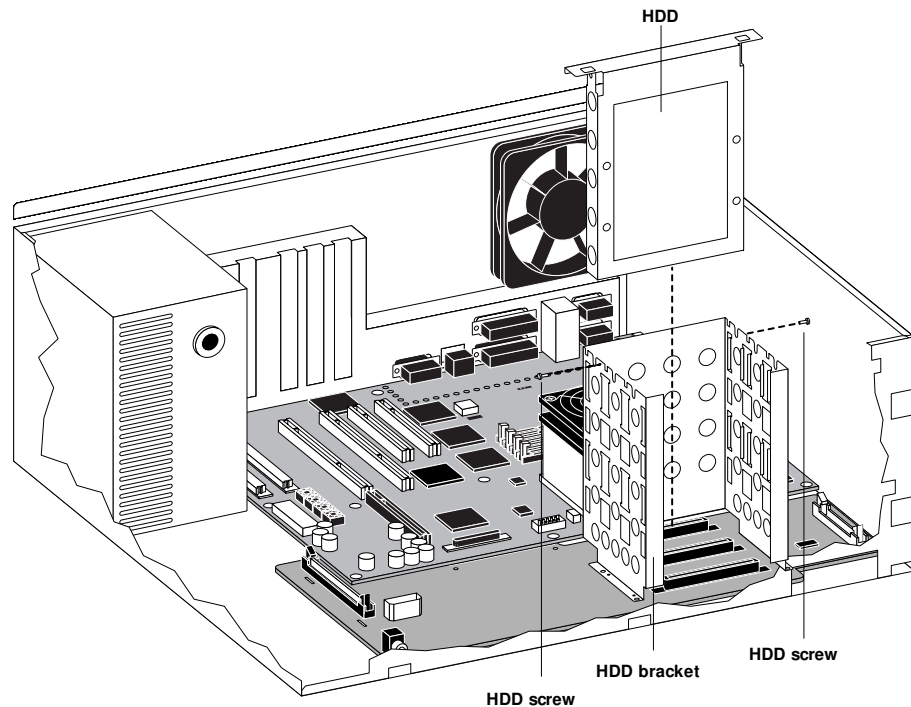

FIGURE 4-28 Removing and replacing the HDD
2. Loosen the two screws on the outside of the HDD bracket (see Figure 4-28).
3. **Once the HDD is securely installed in the connector on the HDD backplane board, tighten the two screws on the outside of the HDD bracket (see Figure 4-28 on page 4-41).**